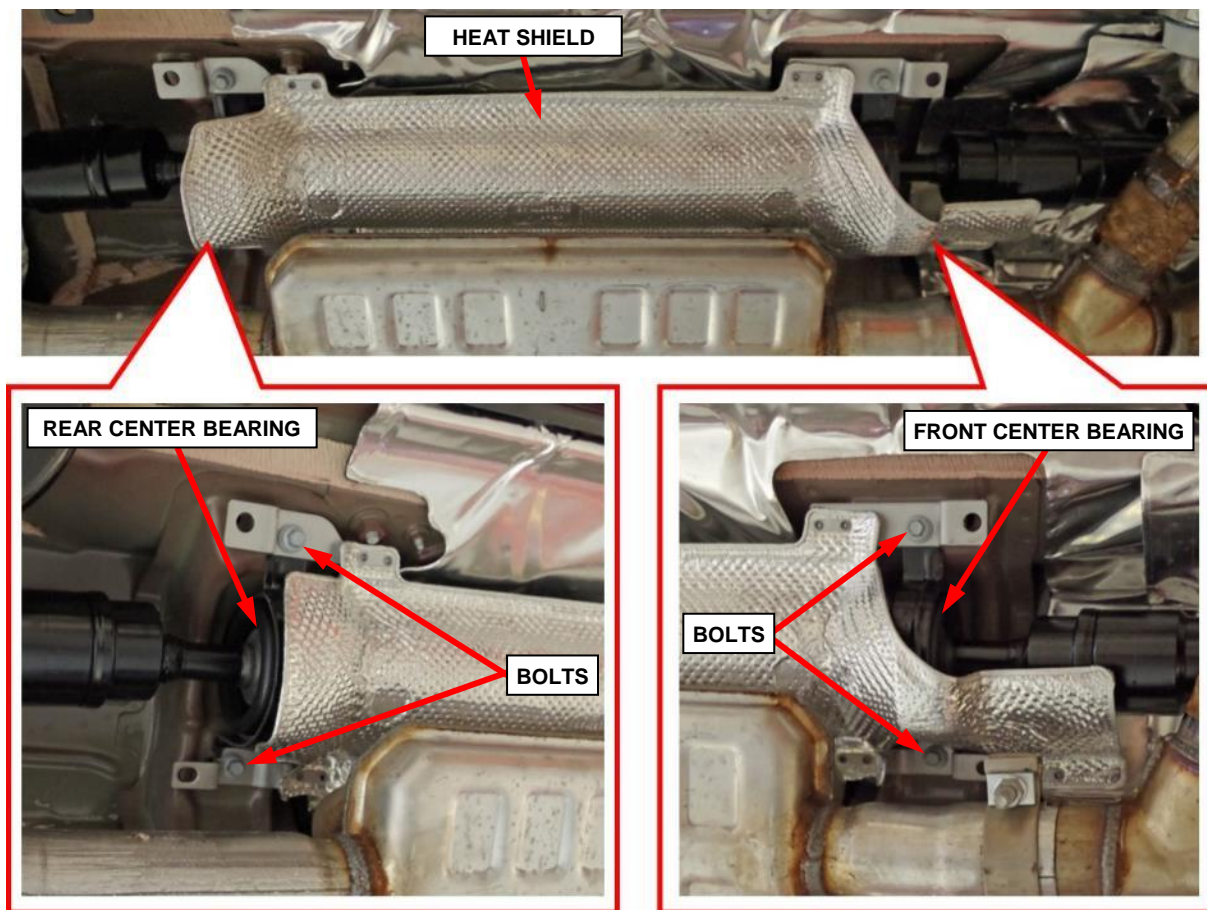

Figure 31 – Rear Center Bearing
- c. Remove the front center bearing bolts (Figure 31).
- d. Remove the rear center bearing bolts (Figure 31).